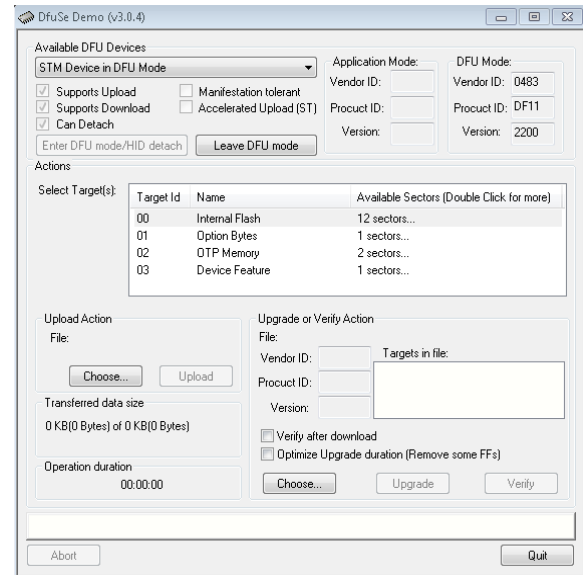

Figure 8. DfuSe Demo Settings
6. Open the **DfuSe Demo** by going to **Start > All Programs > STMicroelectronics > DfuSe > DfuSe Demo**. Figure 8 shows the **DfuSe** demo settings at startup.